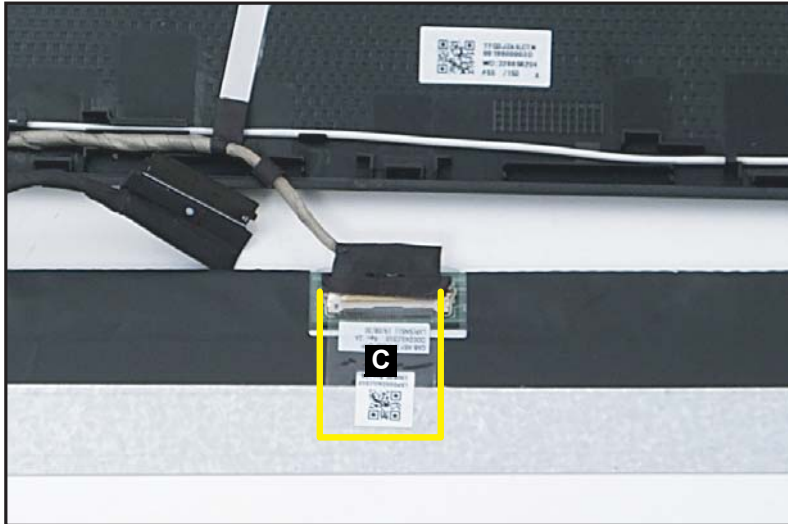

Figure 1-55. LCD Panel Removal
- Carefully turn the LCD panel over so that the display panel is facing down on a flat surface. Then detach the mylar tape (C) securing the eDP cable to the LCD panel (Figure 1-55).